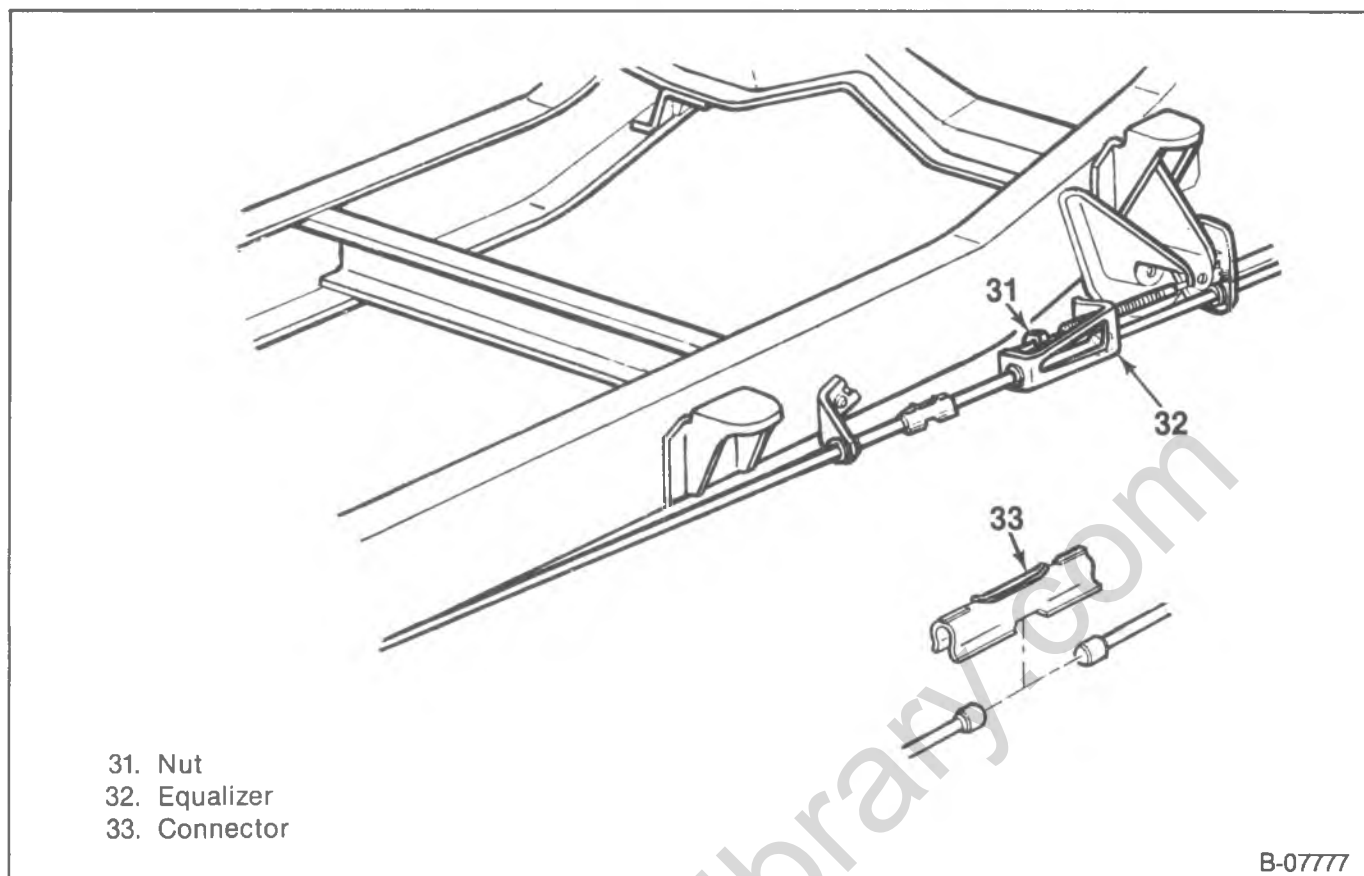

Figure 19—Equalizer Components
↔ Remove or Disconnect (Figures 19 and 20)
↔ Install or Connect (Figures 19 and 20)
↔ Remove or Disconnect (Figures 19, 21 and 22)
↔ Install or Connect (Figures 19, 21 and 22)
**Remove or Disconnect (Figure 19)**
1. Nut (31) from the equalizer (32).
2. Both front and rear connectors (33).
**Install or Connect (Figure 19)**
2. Connector (33).
3. Nut (31) onto the equalizer (32).
Remove or Disconnect (Figure 19)
Install or Connect (Figure 19)